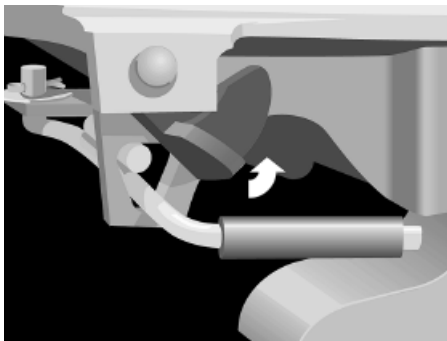

Figure 10
2. **UNLATCHED (LOCKSET)** - to unlock, manually rotate the safety indicator toward the rear of the fifth wheel (Figure 10).